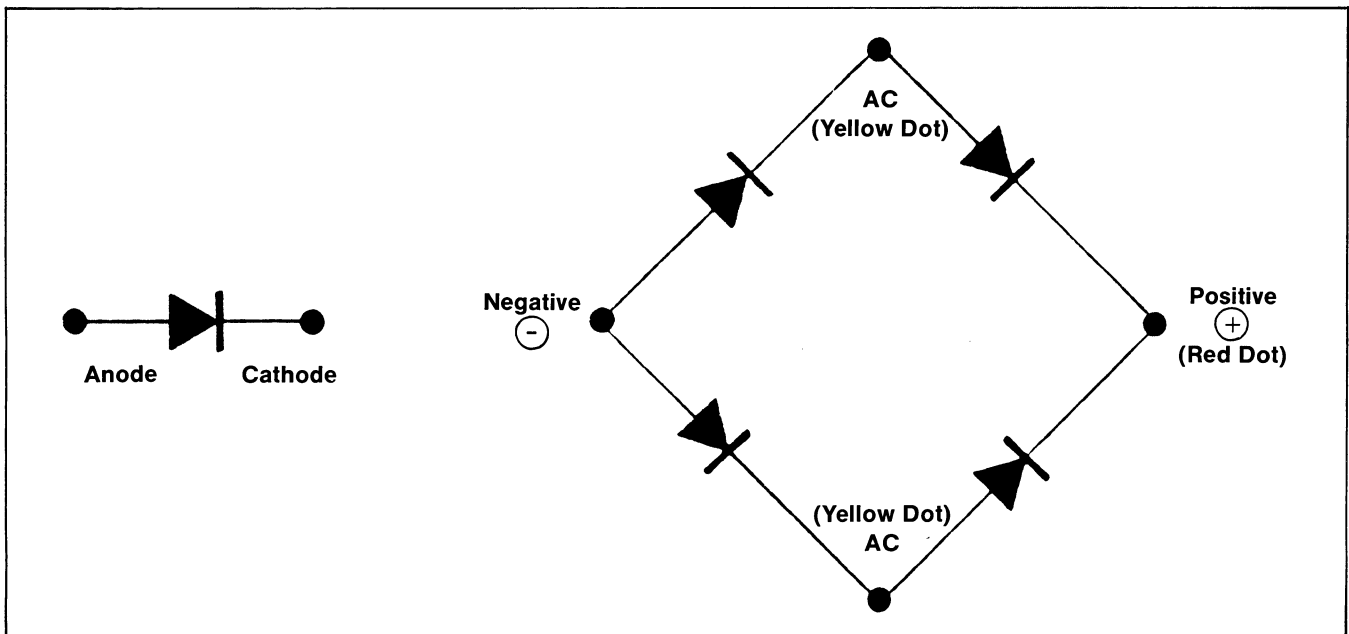

Figure 2-12. Rectifier (4 Diodes)
This test is the same as if (4) separate diodes were being checked. Diodes, as you know, allow current to pass in one direction and offer high resistance in the other direction. Figure 2-12 shows how the diodes are connected inside the rectifier.